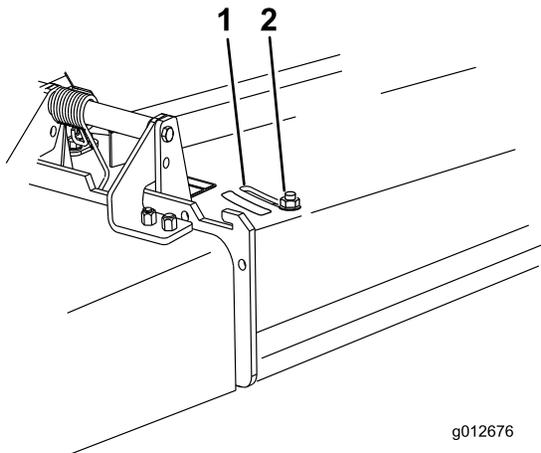

Figure 14
3. To adjust the baffle, loosen the nut (Figure 14).